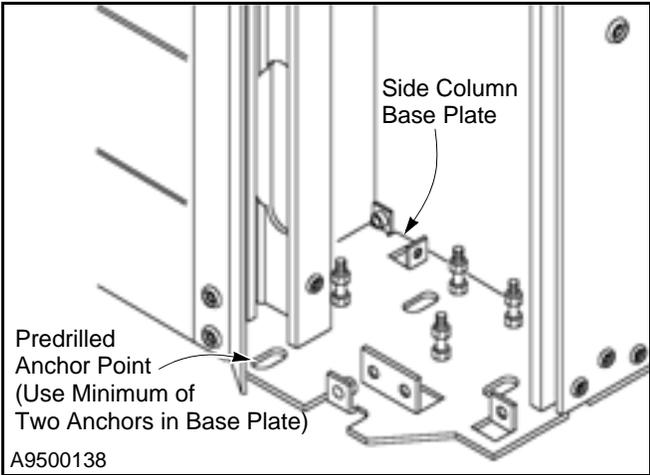

Figure 16
- Using the predrilled anchor points in the base plate as a reference, mark their location on the floor. (See Figure 16.)